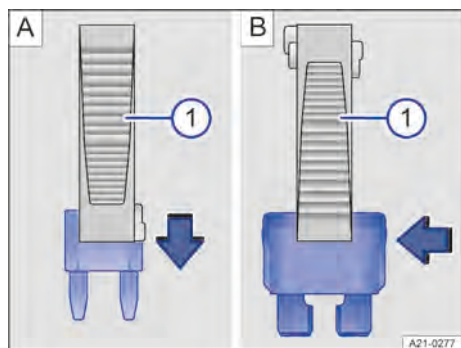

Fig. 195 Removing or inserting fuse (illustration).
1. If applicable, take the plastic pliers → Fig. 195 ① out of the fuse box cover.
2. Push the plastic grippers clip suitable for the fuse type onto the fuse from the top → Fig. 195 A or the side → Fig. 195 B.
4. If the fuse has blown, replace it with a new fuse of the same amp rating (same colour and same markings) and same size → ①.